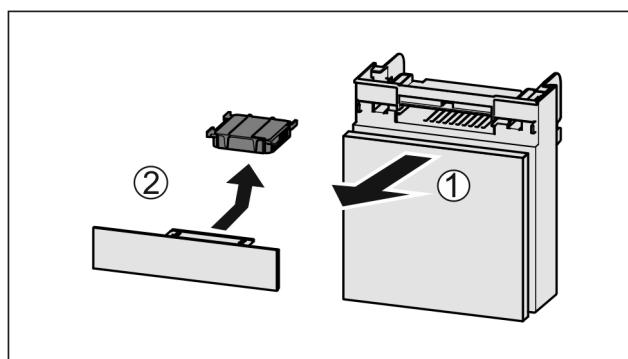

Fig. 146
- ▶ Pull out the compartment Fig. 146 (1).
- ▶ Remove the carbon filter Fig. 146 (2).